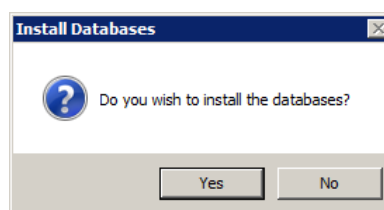

Figure 2-25 AEDT Setup Wizard – Install Databases Dialog Box
10. Click *Yes* when prompted to install the databases (Figure 2-25).